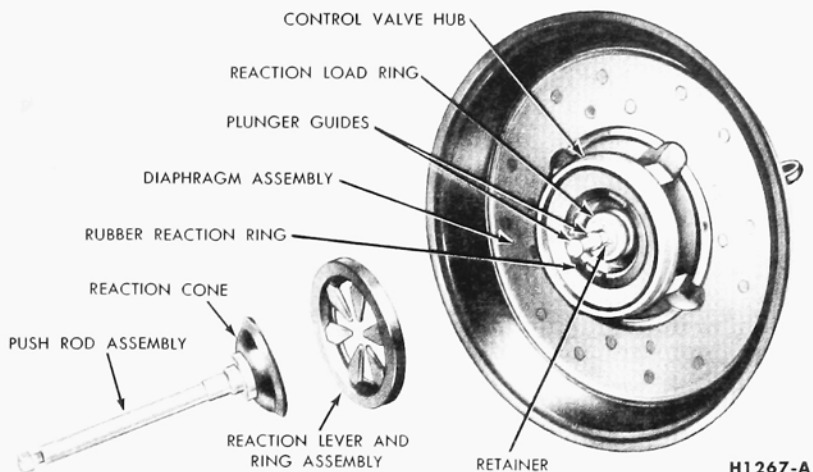

FIG. 29—Disassembly or Assembly—Reaction Components, and Push Rod-to-Valve Hub
11. Remove the booster push rod assembly, the reaction lever and ring assembly, and the rubber reaction ring from the control valve hub (Fig. 29). Remove the two plastic plunger guides from the control valve plunger.
guides in their grooves on the valve plunger assembly (Fig. 29).
9. Install the rubber reaction ring in the valve hub so that the ring locating knob indexes in the notch in the hub, with the ring tips toward the front (Fig. 29).
10. Assemble the reaction lever and ring assembly, then install the assembly in the valve hub (Fig. 29).
11. Assemble the reaction cone and cushion ring to the push rod, and secure to the rod with the retainer (Fig. 26). Install the push rod assembly to the valve hub so that the valve plunger indexes in the push rod (Fig. 29).